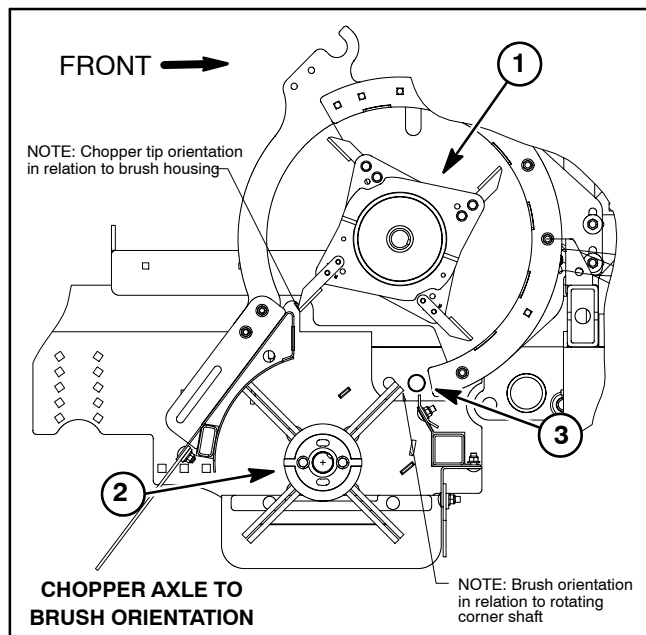

Figure 23
**IMPORTANT:** Make sure that brush shaft and chopper axle are properly aligned as drive belt is installed (Fig. 23). Improper alignment will decrease machine performance and may lead to increased debris buildup in Processor that can cause accelerated component wear and damage.
C. Rotate chopper axle so that a row of chopper tips is aligned with the brush housing corner. Rotate brush shaft so that one of the brush tips is aligned with the rotating corner shaft (Fig. 23).
F. Apply Loctite #242 (or equivalent) to threads of set screws (item 15). Install and tighten set screws into sprocket to secure sprocket to chopper axle.
7. Adjust drive belt idler pulleys to achieve proper tension on drive belts (see Operator's Manual). After adjustment, make sure that chopper axle and brush shaft are still properly aligned (Fig. 23).